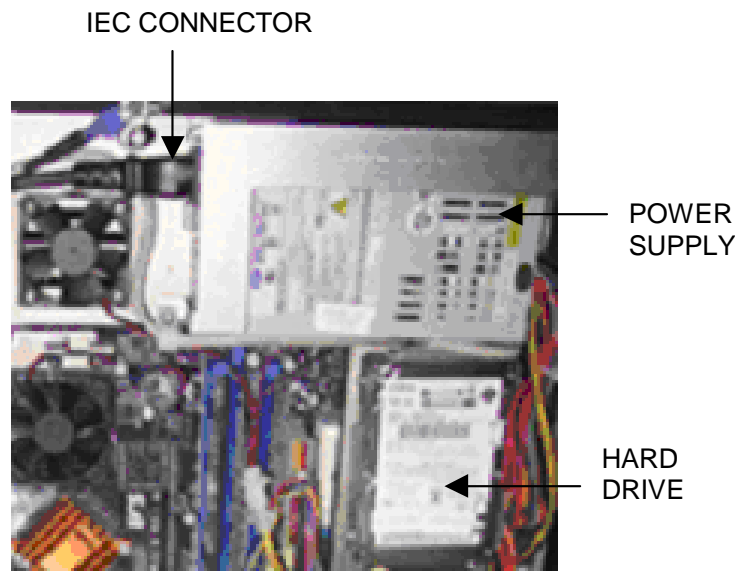

FIGURE 1 - OVERVIEW OF HARD DRIVE
3. Unplug the IEC connector from the power supply. See Figure 1.